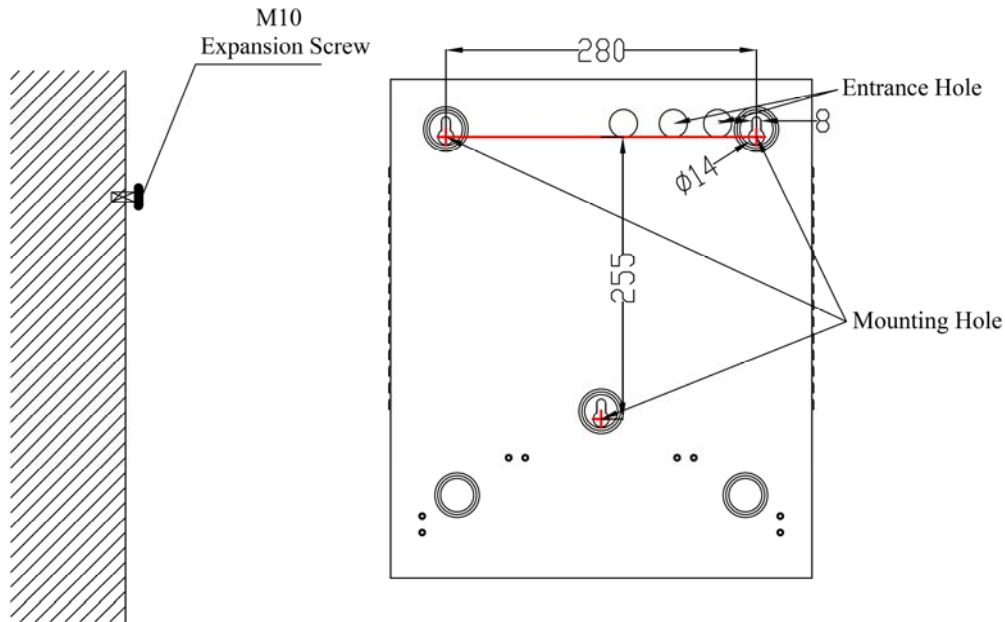

Figure 2: Schematic diagram of power supply installation
5. Installation schematic diagram shown in Figure 2.